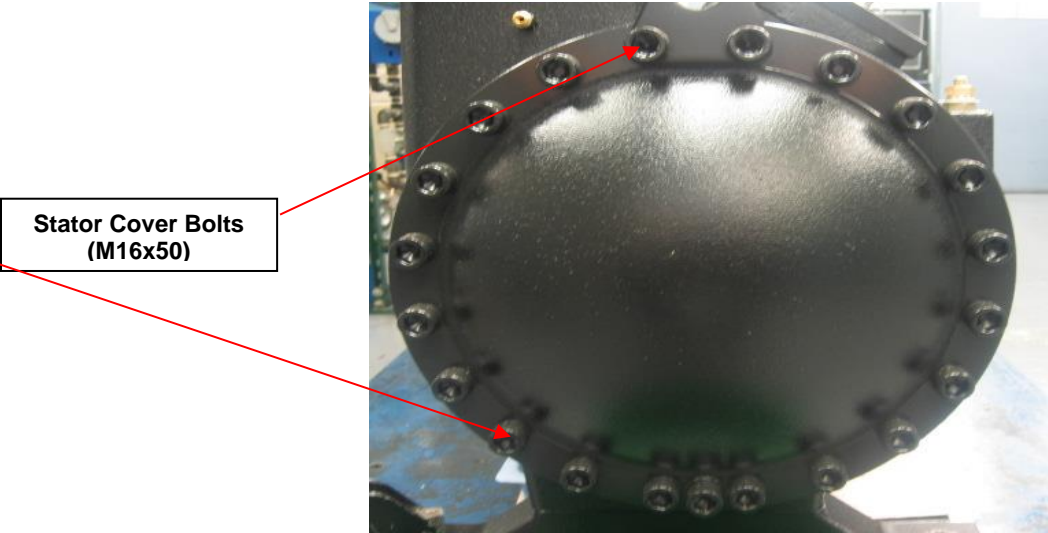

Figure 6
- If the new motor requires the replacement of the motor rotor, use the M28 spanner to remove the motor rotor locking nut (See Fig 6)
- Once removed, remove the motor rotor and the rotor spacer from the drive rotor (See Fig 6)